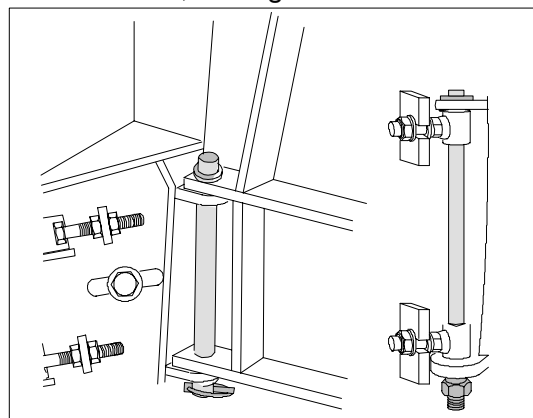

Fig 5. Installing the feed chute.
- Attach the feed chute, using the pin and lockscrews, see Fig 5.